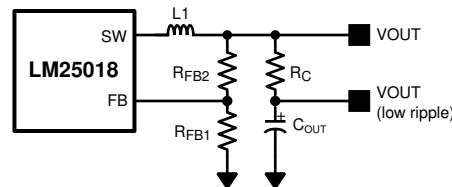

図 7-1. Low Ripple Output Configuration
This regulator regulates the output voltage based on ripple voltage at the feedback input, requiring a minimum amount of ESR for the output capacitor (C_{OUT}). A minimum of 25 mV of ripple voltage at the feedback pin (FB) is required for the LM25018. In cases where the capacitor ESR is too small, additional series resistance can be required (R_C in 図 7-1).
For applications where lower output voltage ripple is required, the output can be taken directly from a low ESR output capacitor, as shown in 図 7-1. However, R_C slightly degrades the load regulation.